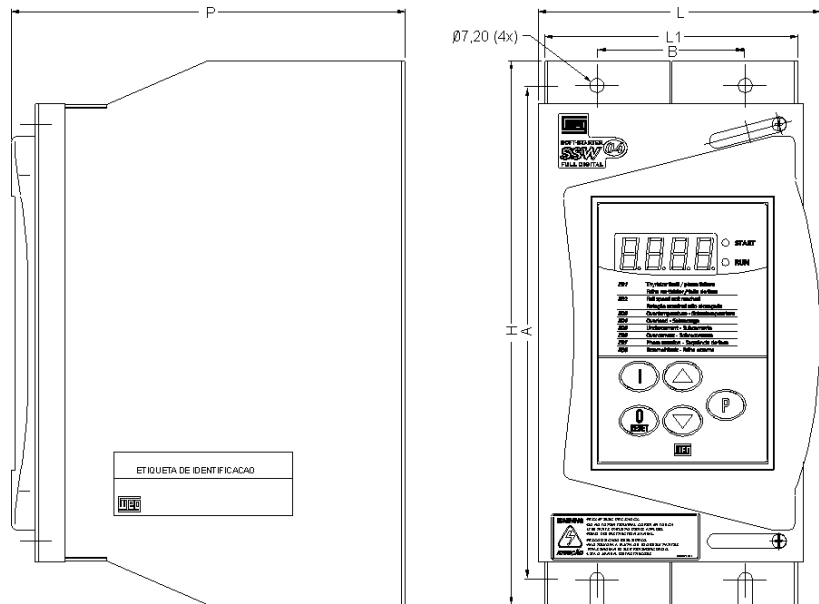

Figure 3.2 - External dimensions for the SSW-04 and its screwing drillings
- ☑ External dimensions, fastenings drillings, etc. according to Figure 3.2.